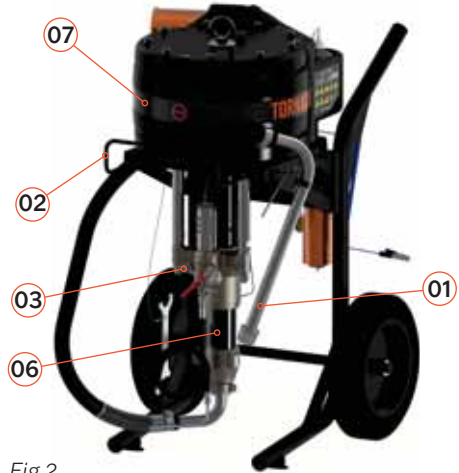

Fig.2
- 01** Product Suction Hose (Fig. 2)
- 02** Hose support (Fig. 2)
- 03** Product outlets (Fig. 2)
- 06** Hydraulic cylinder (Fig. 2)
- 07** Pneumatic cylinder (Fig. 2)
- 08** Transport trolley (Fig. 2)